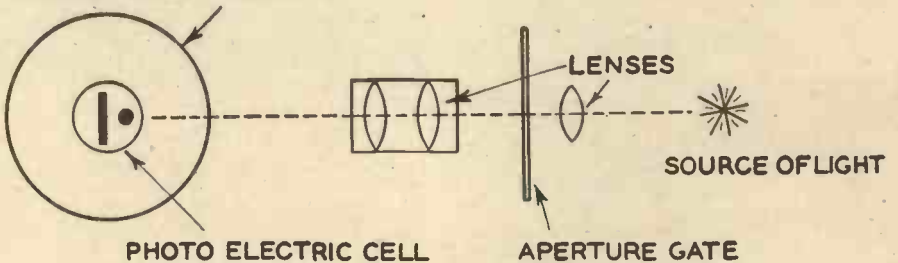

Fig. 2.—Details of a more up-to-date apparatus, using a photo-electric cell.
One modern scheme of this character is shown in Fig. 2. As before, there is a rotating cylinder made, however, from transparent material, and located inside this is an efficient photo-electric cell connected up to a multi-stage valve amplifier. The photograph or message to be transmitted by wire or wireless is stretched round this drum and an intrinsically brilliant source of light is focussed through a small diaphragm on to the cylinder. Fig. 3 indicates an actual part of the mechanism built up on these lines: (1) being the message fixed to the drum; (2) the diaphragm and focussing lens; and (5) the source of light in a suitable screening cover.